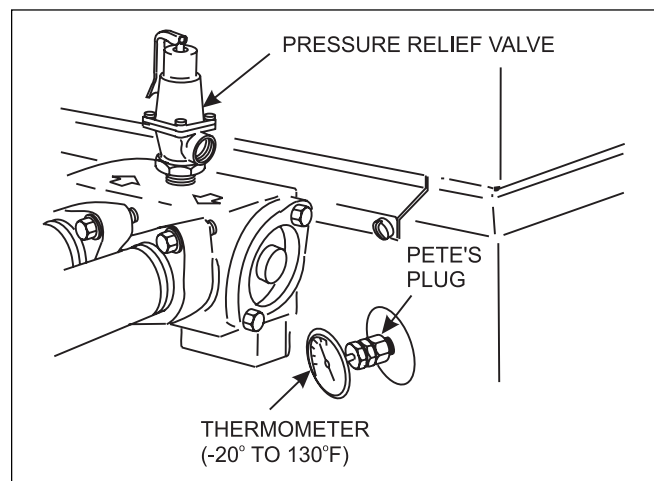

Figure 14. Thermometer and pressure relief valve
1. Remove the 3/4 inch (19 mm) brass plug located on the top of the inlet/outlet header (see Figure 14).